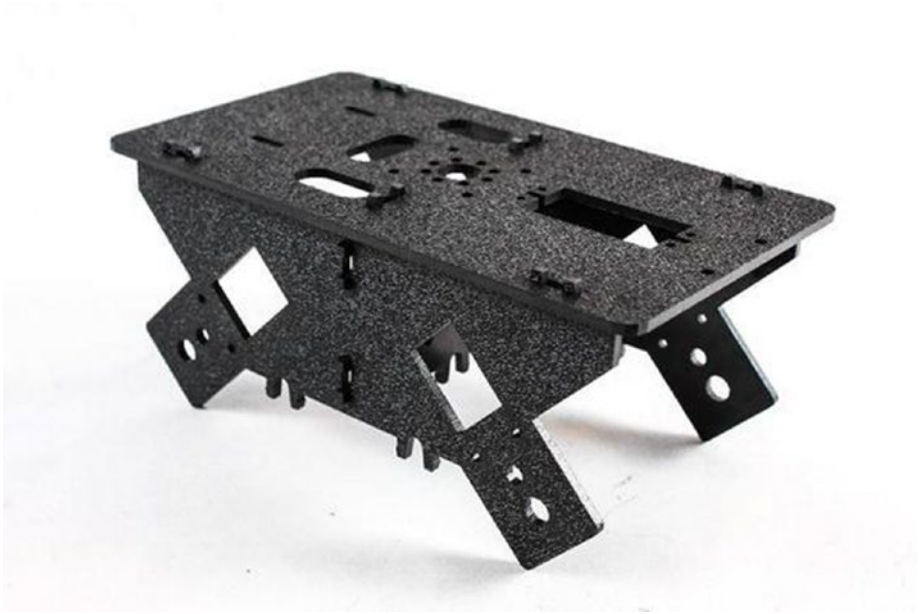

Figure 7-3. *Top plate added*
3. Snap the top plate to the assembly. There are six sets of tabs that snap to the top plate (see Figure 7-3).